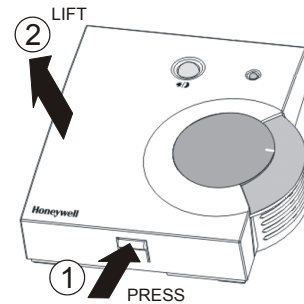
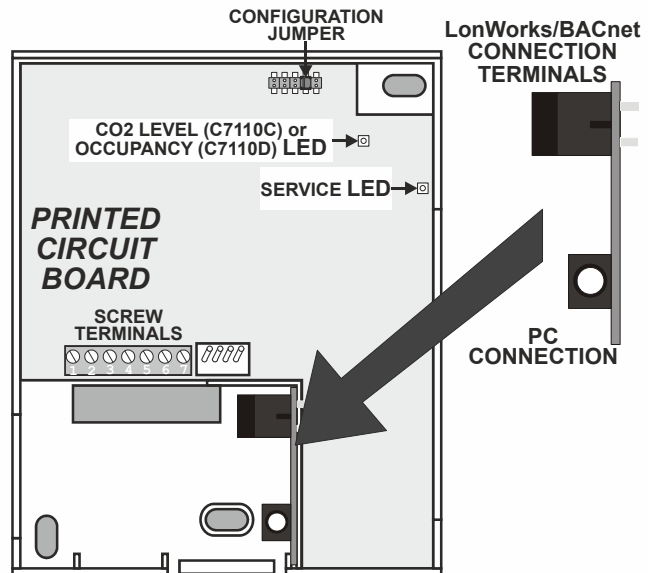
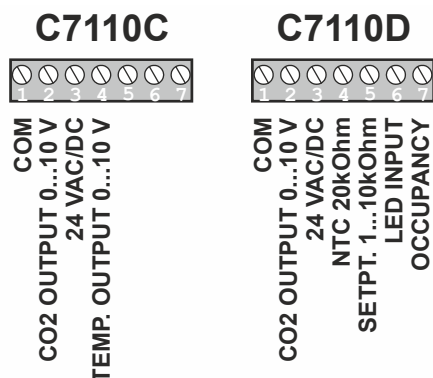
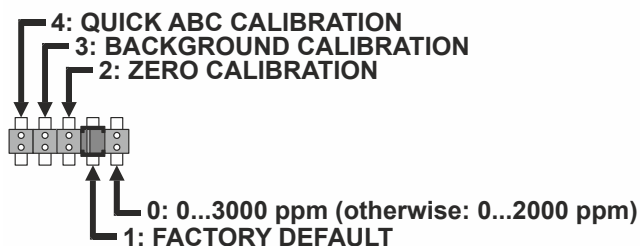

Fig. 2. Removing the cover
Fig. 3. Mounting the T7460-LONJACK
Fig. 4. Terminal assignment (C7110C, C7110D)
Fig. 5. Configuration jumper positions
1. Remove the cover (see Fig. 2).
The T7460-LONJACK (ordered separately) is a small board with a 3.5 mm jack. When mounted to the Printed Circuit Board (see Fig. 3), it provides easy access to LONWORKS / BACnet (the wall module must be already connected to the LONWORKS / BACnet network via a bus cable, in compliance with the max. cable lengths set forth by the LONWORKS / BACnet Guidelines).
The screw terminals, located on the Printed Circuit Board (see Fig. 3), are suitable for connecting 0.3 to 1.5 mm2 (16...22 AWG) wiring. The terminals assignment of pins 1 through 7 for both models is depicted in Fig. 4.
The wall module can be calibrated manually and the CO2 measuring range extended by repositioning the configuration jumper located on the Printed Circuit Board (see Fig. 3). There are five possible configuration jumper positions (see Fig. 5).
The yellow service LED located on the Printed Circuit Board (see Fig. 3), and visible after the cover has been removed (see Fig. 2), illuminates during the warm-up phase and also whenever a failure is detected.
The functionality of the occupancy bypass button and the occupancy LED of the C7110D (see Fig. 2) is dependent upon the connected controller. Please refer to the corresponding technical literature and/or controller application.